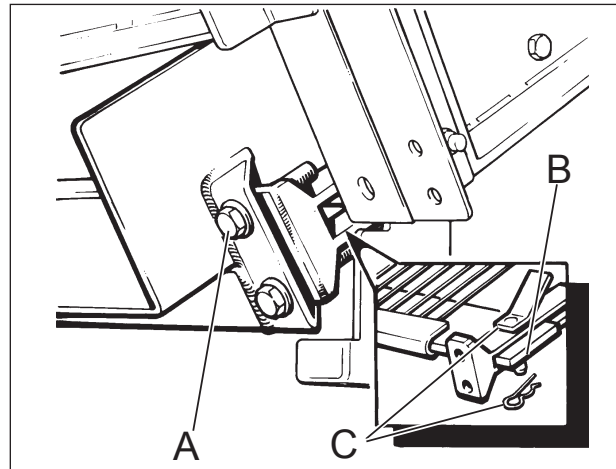

Figure 9.60 - Screen Tension Bar
11. Loosen the bolts (A) that hold the screen tension, Reference: Figure 9.60.
12. Remove pins and spring pins (C), 1 off LHS/RHS.
13. Slide back the screen tension bar (B).